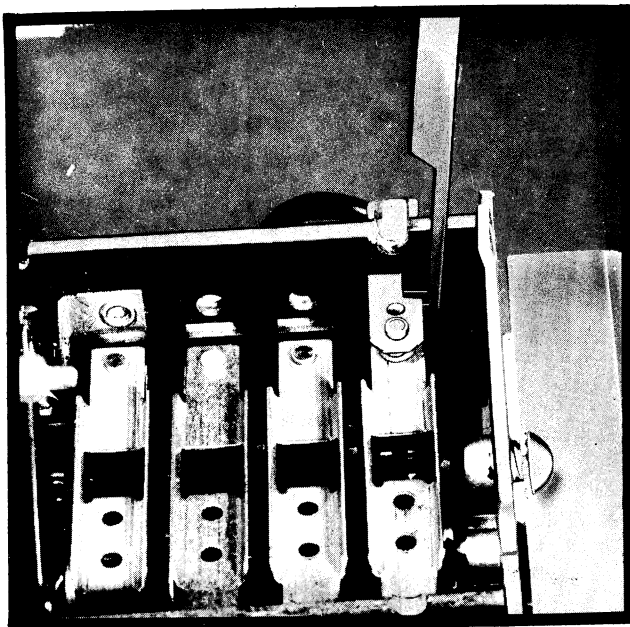

Figure 32
- Place the contact forming tool over the contact arm as close to Micarta-board as possible. Carefully bend the arm down a little at a time (do not distort arm) until the correct pressure is obtained, *Figure 32*.